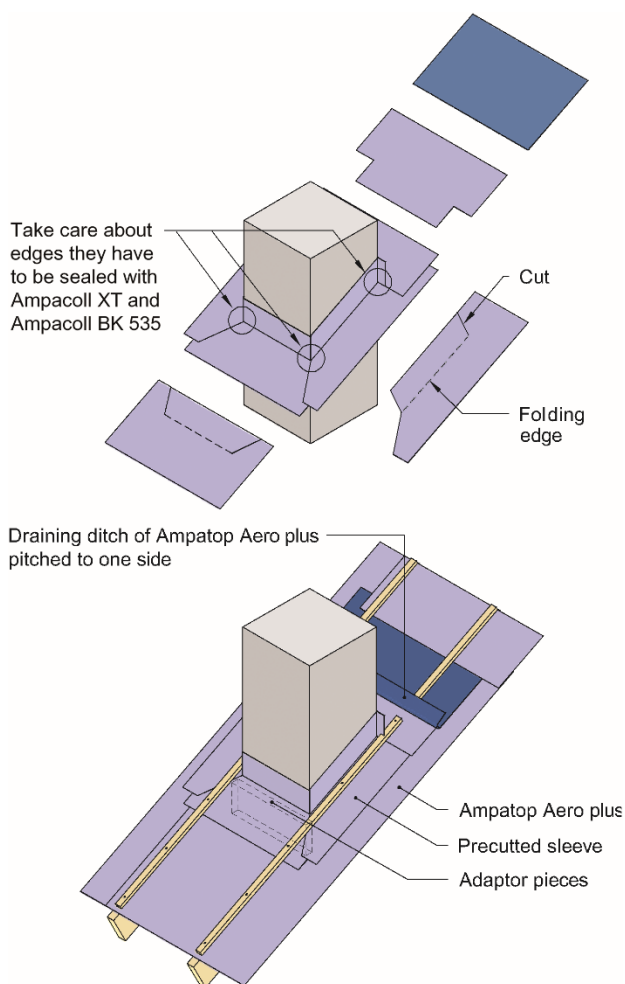

Fig. 2
1) Ampacoll XT and Ampacoll BK 535 has satisfactory adhesion to the surface of Ampatop Aero plus, painted and untreated wood, galvanized and stainless steel, painted and anodized aluminium, PVC, concrete and GUX gypsum plasterboard.2) Ampacoll Flexx Pro tape has satisfactory adhesion to the surface of Ampatop Aero plus, painted and untreated wood, galvanized and stainless steel, painted and anodized aluminium and PVC.3) The tapes can be used in areas where water accumulation is usually not possible, like on pitched roofs or vertical surfaces without obstacles transvers to the roof slope. On the outside of bushings, like chimneys etc., additional actions must be taken. See also fig. 2.
Ampatop Aero plus shall be installed with airtight connections to the wind barrier of exterior walls, and with airtight joints at the ridge and valley gutters. In addition, it is important that connections towards roof windows, chimneys etc. are made both water- and airtight, see SINTEF Building Research Design Guide no. 525.101 *Skrå, luftede tretak med isolerte takflater* and 525.866 *Undertak* for details. On the outside of bushings, like chimneys etc., additional actions must be taken, see figure 2.